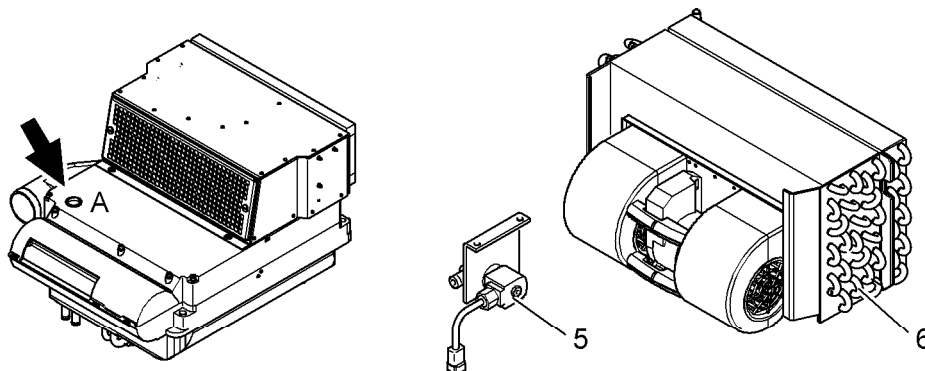

Fig. 5-64 Heating unit with solenoid valve
- Do not operate the machine, even briefly, without these filters, since the heat exchanger **6** will otherwise quickly become blocked (siehe Fig. 5-64).